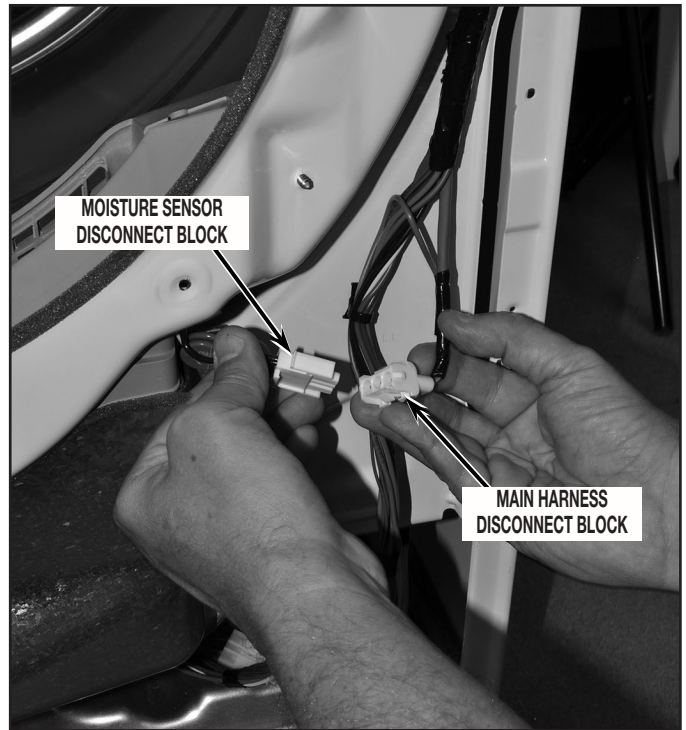

FIGURE 12
12. Disconnect moisture sensor disconnect block from main harness disconnect block located at lower right side of dryer. See Figure 12.